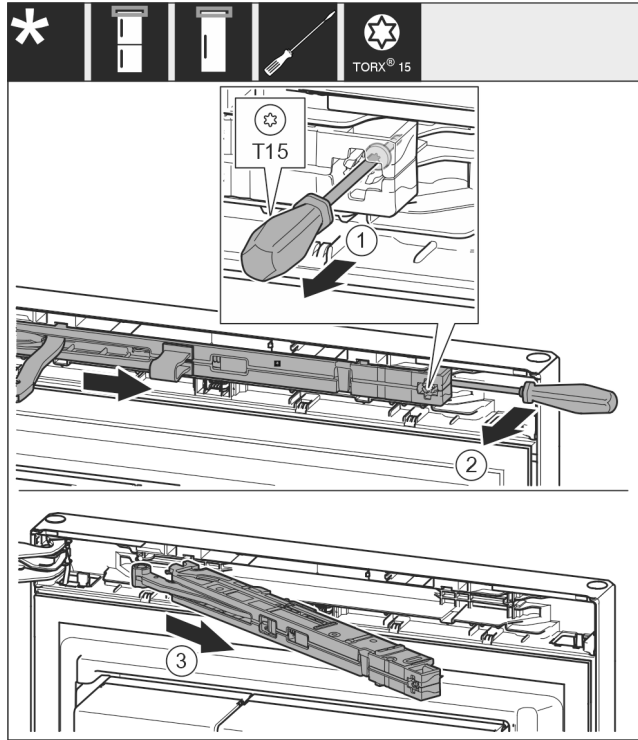

Fig. 8
- ▶ Undo the soft stop mechanism screw with a T15 screwdriver approx. 14 mm. *Fig. 8 (1)*
- ▶ Insert a screwdriver behind the soft stop mechanism on the handle side and rotate the unit forwards. *Fig. 8 (2)*
- ▶ Pull out the soft stop unit. *Fig. 8 (3)*